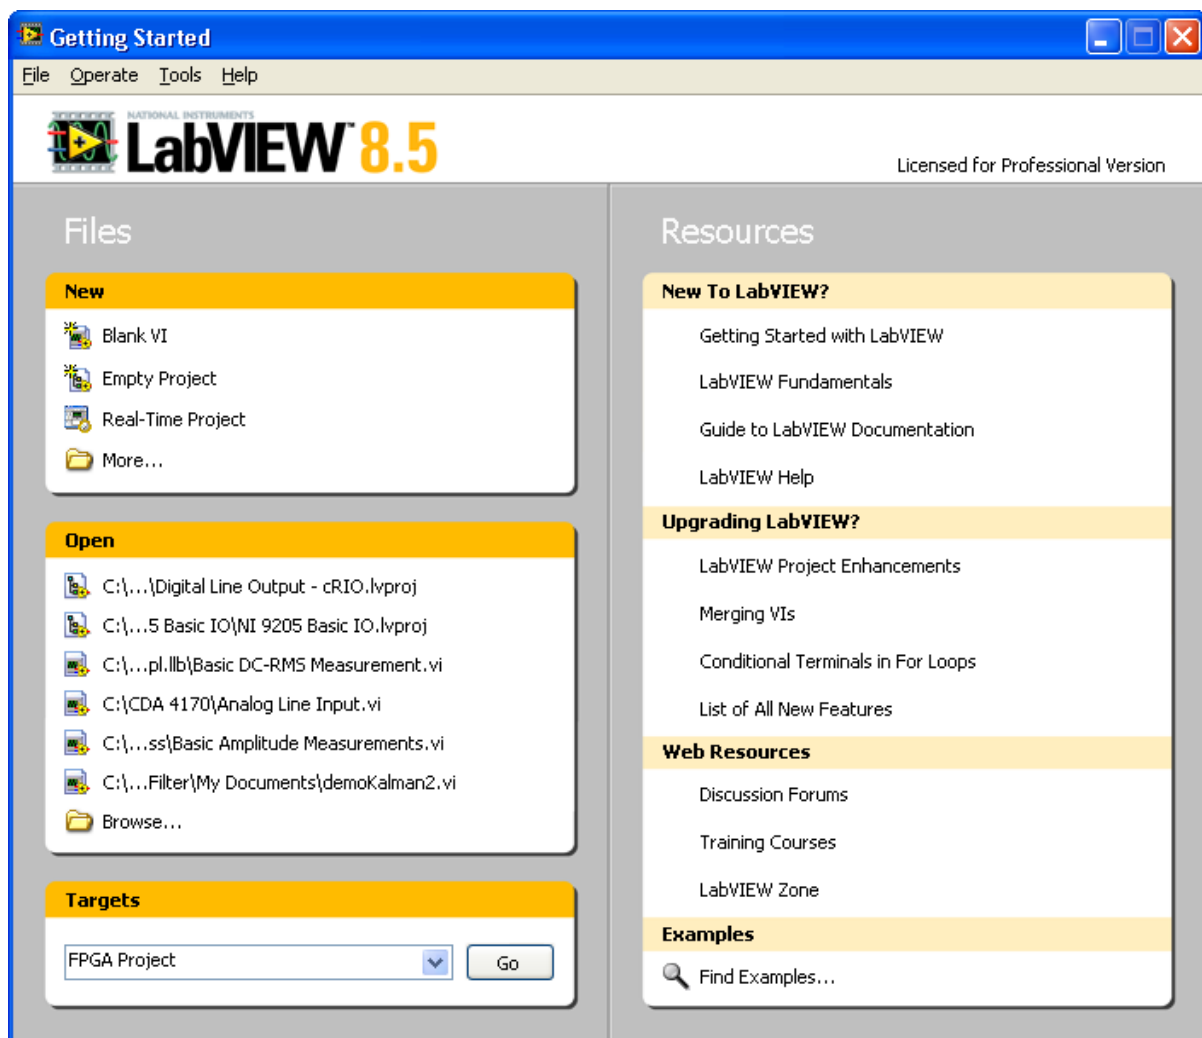

Figure A1 LabVIEW Getting Started
1. Start LabVIEW and click Go under Targets → FPGA Project in LabVIEW getting Started Window (see Figure A1).